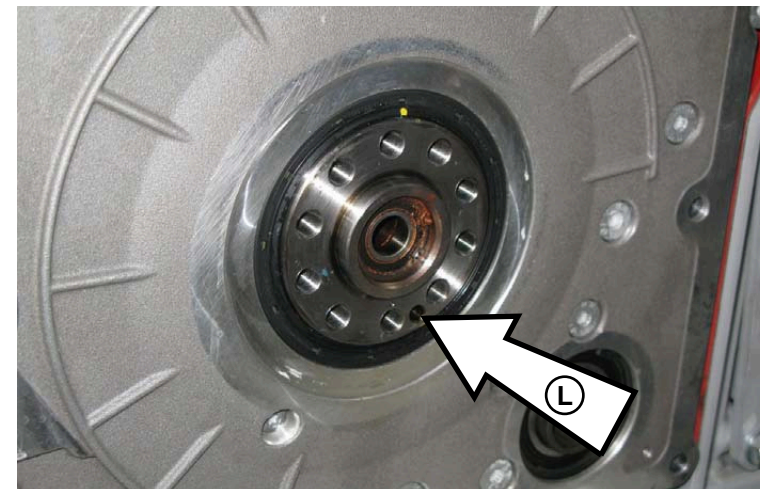

Fig.3
1. Position the flywheel on the crankshaft so that the centering dowel on the flywheel coincides with the centering dowel on the crankshaft (**L-Fig.3**).